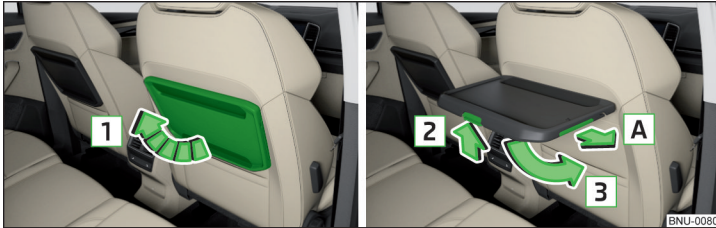

Fig. 121 Table fold up / fold down table and slide out cup holders
- To **fold up**, lift the table in the direction of arrow **1** » Fig. 121.
With the table folded up, the cup holder can be **slid out** in the direction of arrow **A** » Fig. 121.